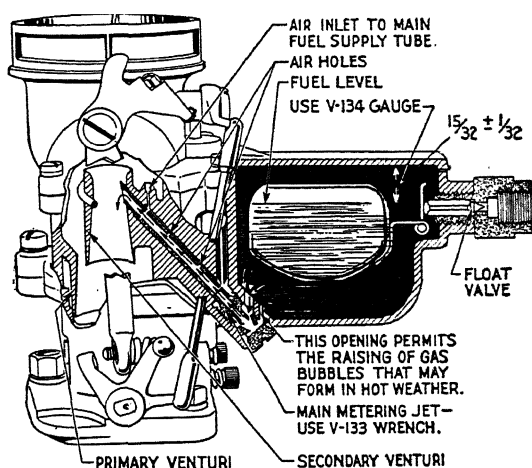

Fig. 121. Sectional View of Ford "V-8" Carburetor
While the idle discharge holes both supply fuel when the carburetor is choked, the main discharge nozzle, Fig. 121, supplies the bulk of the fuel in full choke position. When the carburetor is fully
*Main Fuel Supply.* Starting at a speed of approximately 25 miles per hour, the main fuel supply discharge nozzle supplies all the fuel on up to approximately 75 miles per hour, at which time the by-pass or power jet also cuts in. The fuel, as was the case with the idling fuel supply, passes through the main metering jet. From this jet the fuel travels upward on an angle to the main discharge nozzle in the secondary venturi, as shown in Fig. 121. A slightly smaller jet, "40-9533C" is available for operations in high altitude.
The venturi designated as the primary venturi, Fig. 121, increases the rate or speed of the air flow. The secondary venturi, opening as it does, above this restriction, and discharging below the point of greatest restriction in the primary venturi, takes full advantage of the unbalanced pressures, or the difference in pressure at the two ends of the secondary venturi, namely atmospheric pressure at the upper end, and the stepped-up vacuum at the lower end. In this way an even higher velocity for the air stream is obtained in the secondary venturi.
*Float Level.* As indicated in Fig. 121, the correct float level for these carburetors is  $1\frac{15}{32}$  inch from the lower side of the float-bowl cover gasket. Since this carburetor is of the plain tube type, the float level is of more importance than it was on the air vane operated type of carburetor. However, a tolerance, either plus or minus, of  $\frac{1}{32}$  inch is permissible. The correct float level is measured from the lower side of the float-bowl cover gasket and should be not more than  $\frac{1}{2}$  inch and not less than  $\frac{7}{16}$  inch.